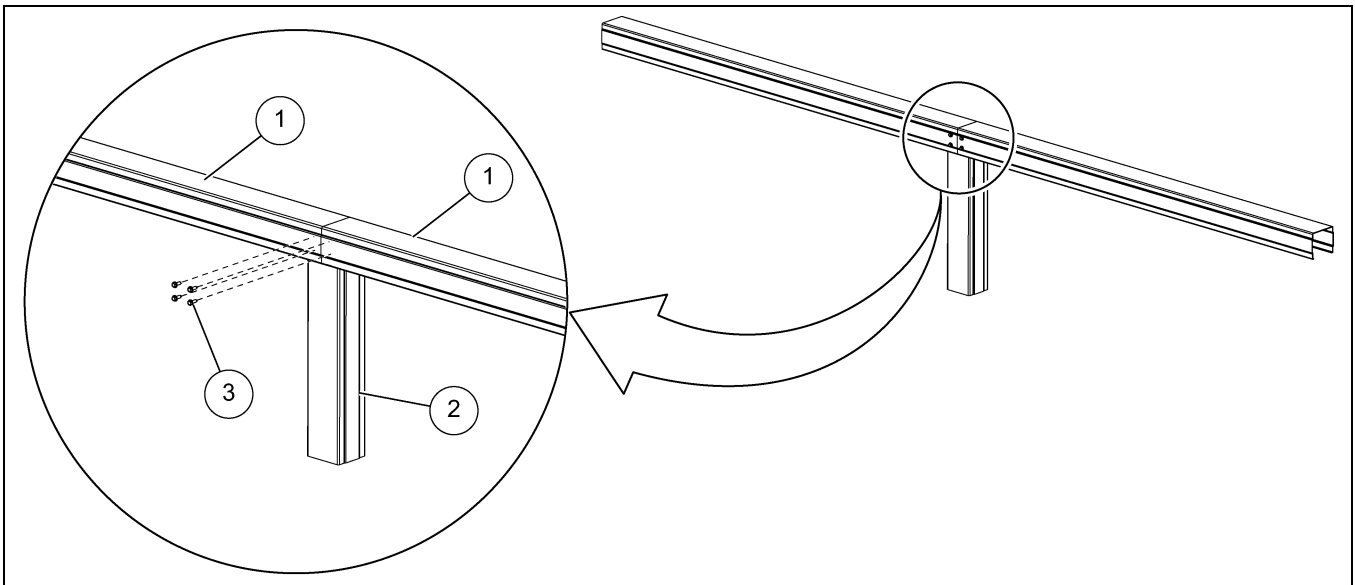

Figure 4G Installing the Screws in the Monorail
2. Use the four self-tapping screws (3) to secure the monorails (1) to the monorail leg (2) as shown in Figure 4G. (**NOTE:** See the orientation of the monorail leg (2) in Figure 4G.)